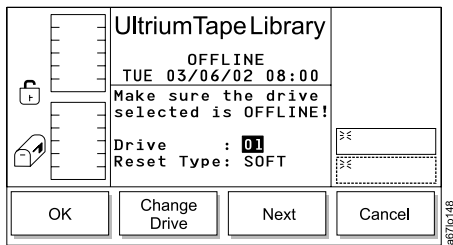

Figure 192. Reset Dialog
3. Press the button below the **Reset** softkey. The Reset Dialog displays with the message **Make sure the drive selected is OFFLINE!** (see Figure 192 on page 158). Ensure that the drive has completed all operations and that no backup applications are running.
7. To return to the Reset Dialog (see Figure 192), press the button below the **OK** softkey. To return to the Main Menu, press the button below the **OK → Cancel → Back** softkeys. Continue to press the button below the **Back** softkey until the Main Menu displays.